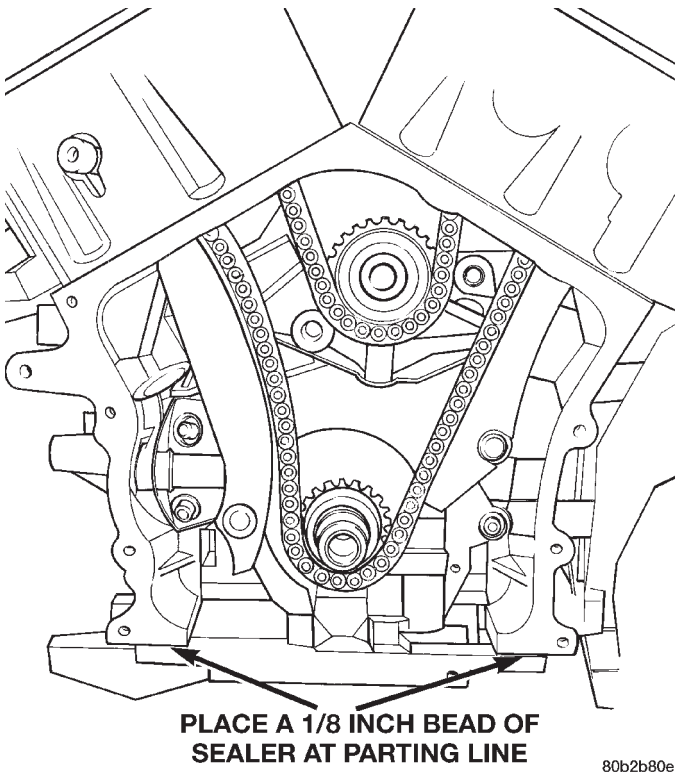

Fig. 52 Timing Chain Cover Sealing
(2) If front crankshaft seal was bench installed, place Special Tool 6780-2, Sleeve over crankshaft nose to guide and protect seal lip.
(3) Before installing timing cover gasket apply a 1/8 inch bead of Mopar® Silicone Rubber Adhesive Sealant to the parting lines between the oil pan and cylinder block (Fig. 52).